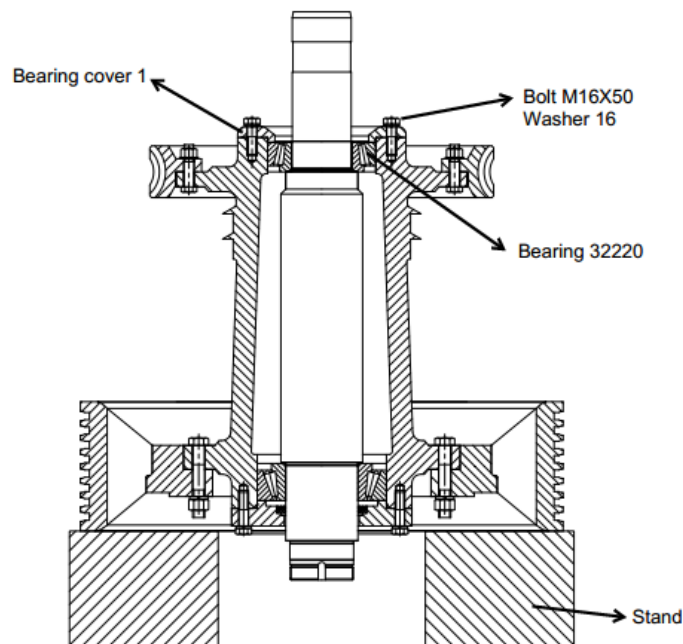

Figure 39 Output Shaft Bearing replacement
2. Remove the six Bolts (M16x50) and Washers (16) using open end wrench (24mm) then remove the Bearing cover1. See Figure 39.